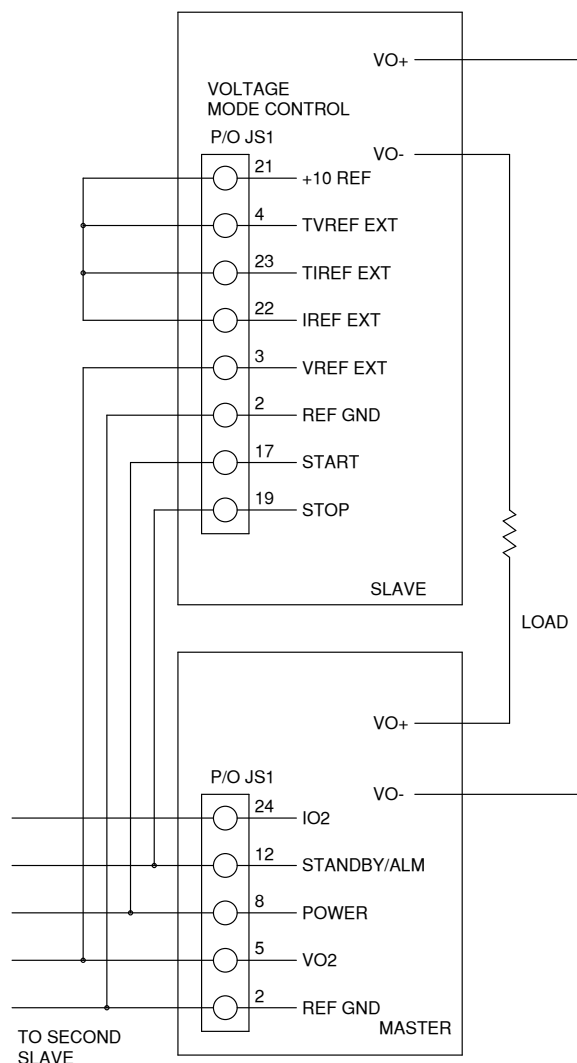

Figure 3.17. Master/Slave series connection
*Figure 3.17, “Master/Slave series connection”* illustrates the terminal connection for master/slave series operation and salient control circuitry. The control cable can be fabricated by the user or purchased as an option, UID47, from the factory. These connections perform the following functions: